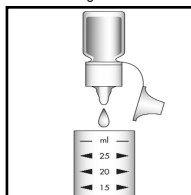

Figure 2
2. Add 10 drops of A-9001 Activator Solution (fig 2). Cap the sample cup and shake it to mix the contents well.
4. Add 5 drops of A-9000 Neutralizer Solution (fig. 2). Cap the cup and shake it to mix the contents well.